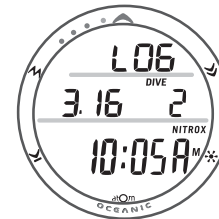

Fig. 120 - LOG PREVIEW (during Transition Period)
- Press and release the A button (< 2 seconds) to access the Preview screen (Fig. 120).